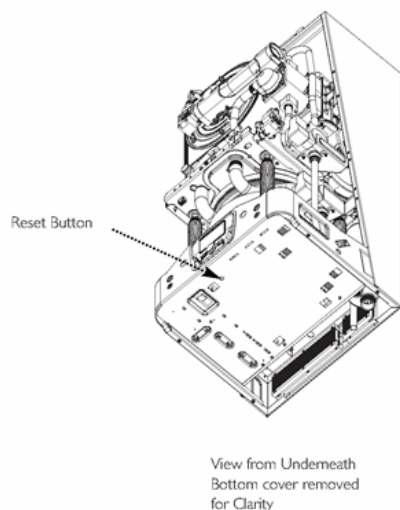

Fig. 81
4. Using a small pointed non-metallic instrument such as a matchstick, press and hold in for at least 3 seconds (any time between 3 and 20 seconds) the reset button on the underside of the PCB (see Fig. 81). Allow time for the error to reset.